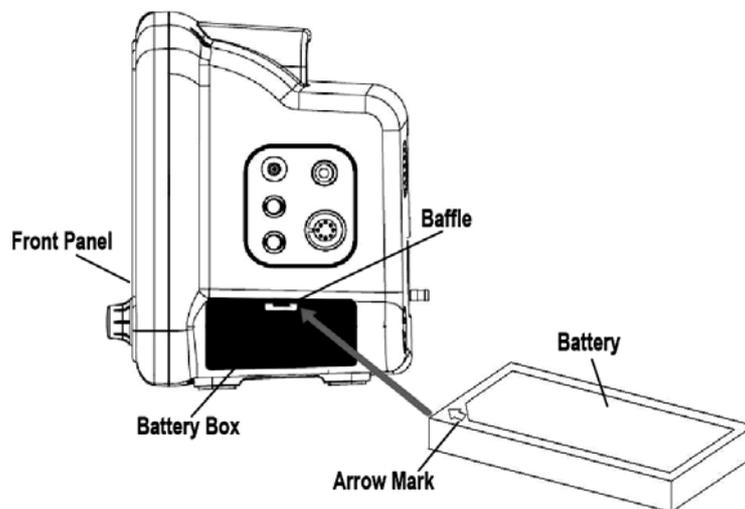

Fig. 4-1
(1) Open the battery cover with a nail.
(2) Keep the battery side with arrow mark upward and poke the baffle from one side with the battery cover near to the arrow mark (refer to the direction indicated by the arrow line in Fig. 4-1), then plug the battery into the battery box until the baffle return to original position.
(3) Close the battery cover.